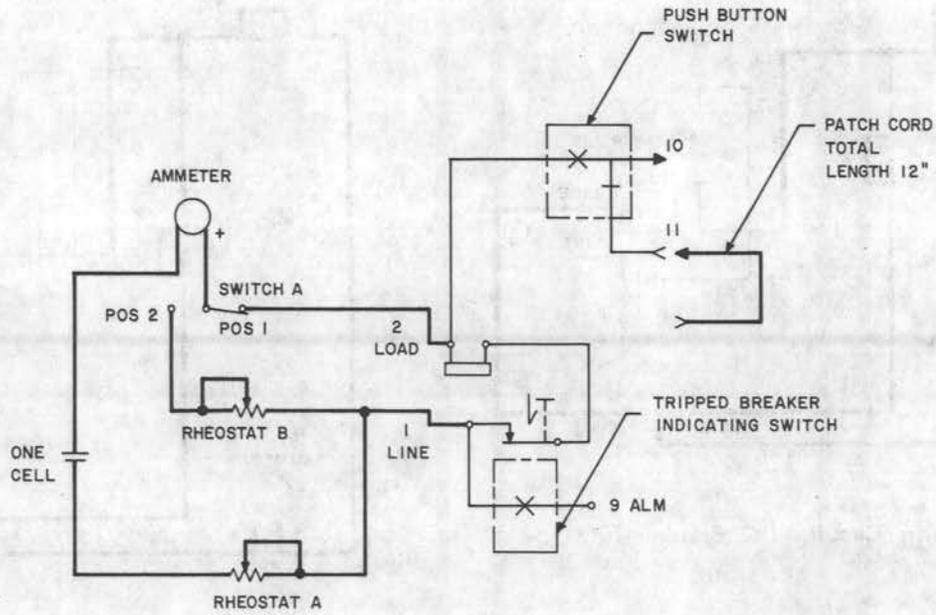

Fig. 41—Checking Circuit—DC Breaker—KS-21225 L20, L30, L100, L112
- (w) **KS-21225:** To check a KS-21225 circuit breaker, proceed in accordance with Method 1. Refer to Fig. 41. In addition to the time-delay performance check, perform the following.